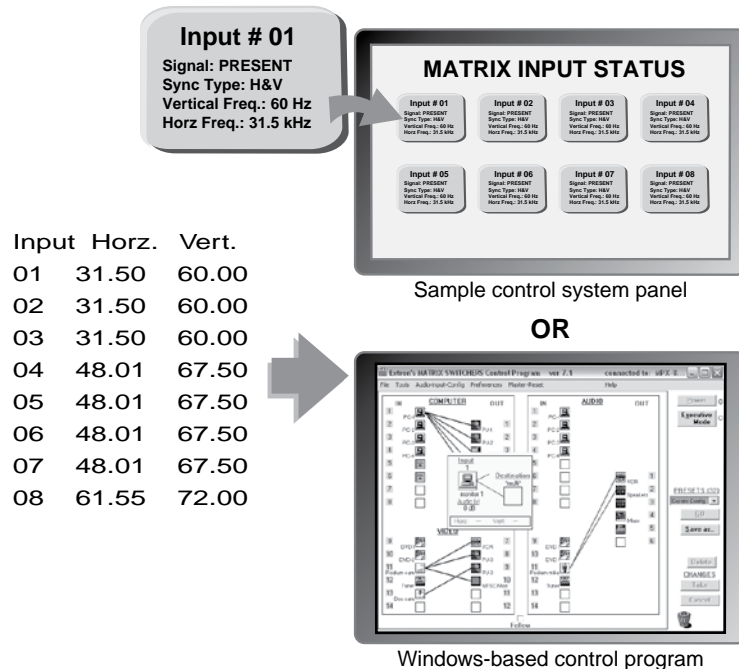

Figure 1-2 — DSVP data display
In critical environments or unmanned, remote locations, it may be vital to know that sources are active and switching. Extron's DSVP confirms that input sources are active by scanning all sync inputs for active signals. DSVP provides instantaneous frequency feedback for composite sync or separate horizontal and vertical sync signals via the switcher's RS-232 ports or Ethernet port. The frequency information can be displayed on any control system or in the Windows-based control program on a LAN or Internet Protocol (IP) connection (figure 1-2).